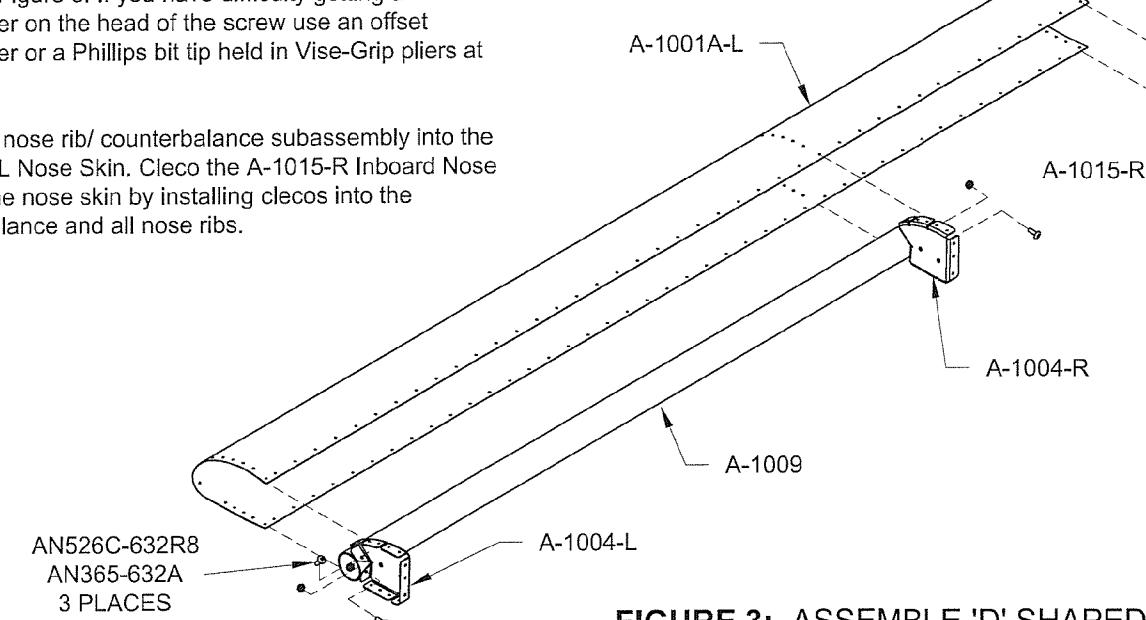

FIGURE 3: ASSEMBLE 'D' SHAPED CELL
Step 4: Attach the A-1004-L and A-1004-R Nose Ribs onto the A-1009 Counterbalance using the hardware shown in Figure 3. If you have difficulty getting a screwdriver on the head of the screw use an offset screwdriver or a Phillips bit tip held in Vise-Grip pliers at 90°.